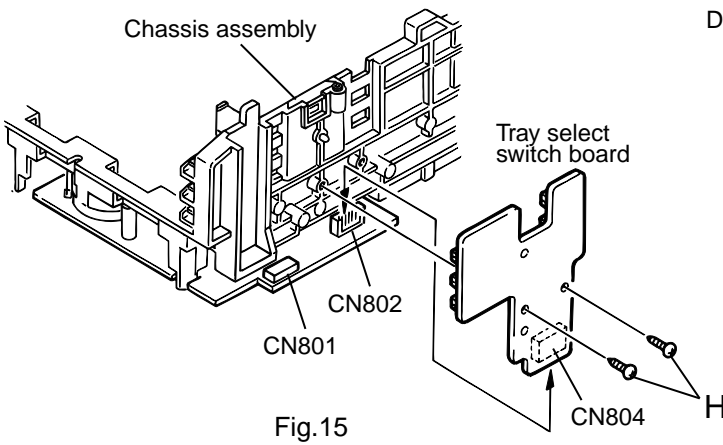

Fig.15
3. Remove the two screws H retaining the tray select switch board(See Fig.15).
(See Fig.15 to 18)
2. While turning the cam gear r, align the pawl "s" position of the drive unit to the notch position(Fig.15) on the cam gear r.